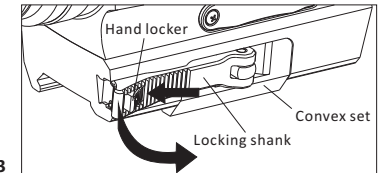

Fig3
2. Designed with our patented nonlinear cam clamping technique, without other tools for mounting rail, push back the locker, life up hand shank to loosen the convex set, inserting the device on rail, push down the hand shank, locker will be auto locked, the installation complete.(see fig 3)